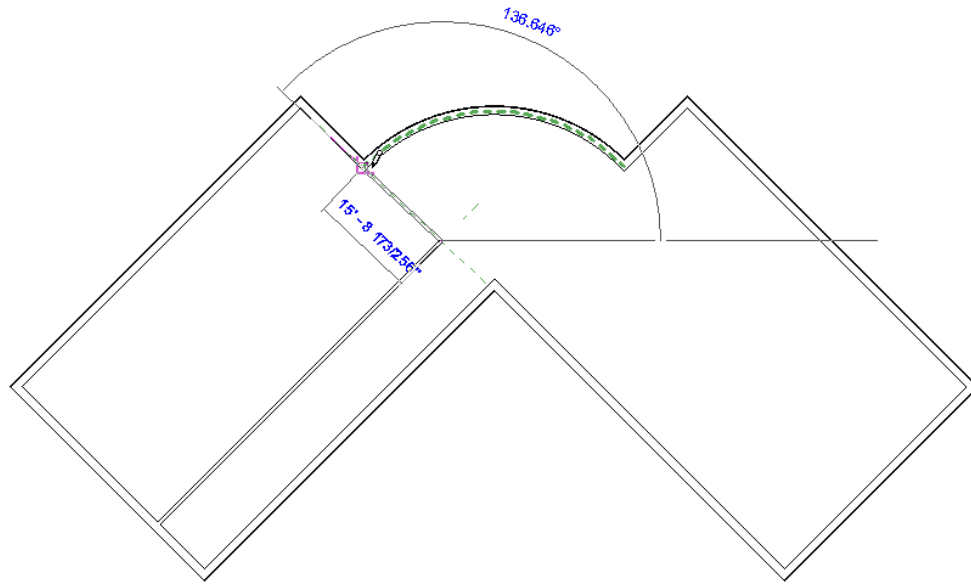

Figure 2-63 Sketching the second interior wall
5. Start the next wall from the endpoint of the last wall by clicking on its endpoint. Moving the cursor upward toward the left until the perpendicular object snap appears, as shown in Figure 2-63. Click to specify the point on the external wall to end the interior wall.